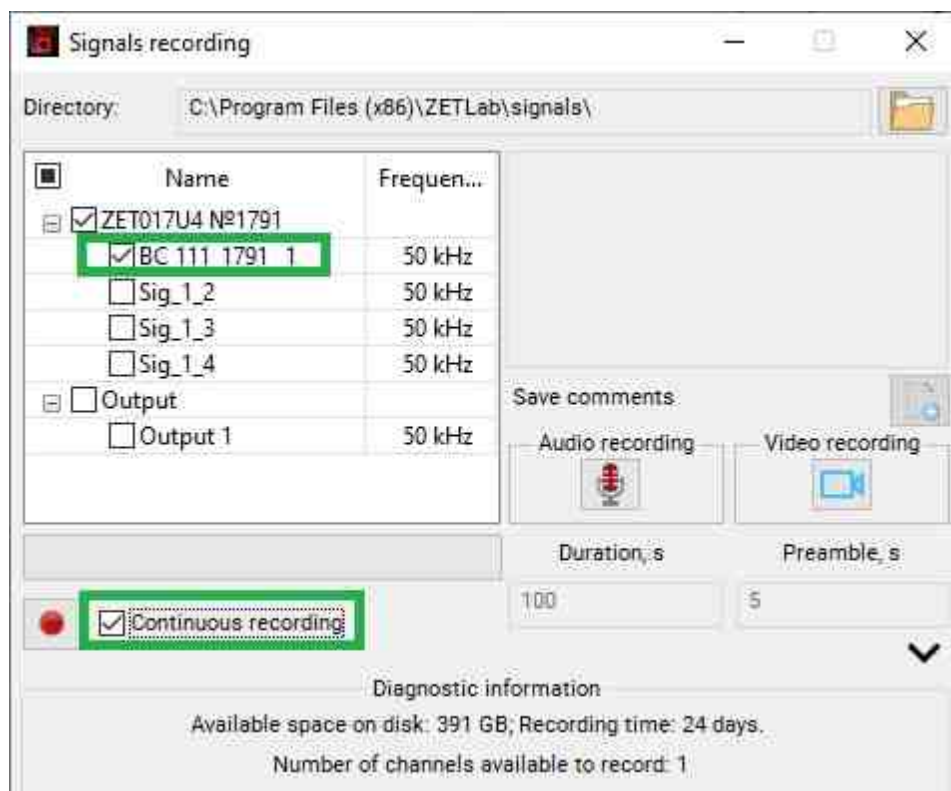

Fig. 2.1 "Signals recording" program
2. In the opened window of the "**Signals recording**" program (*Fig. 2.1*):